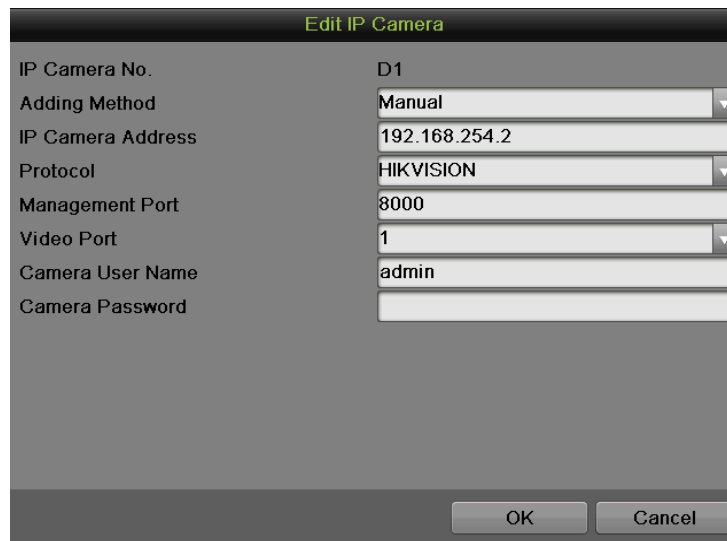

Figure 114 Edit IP Camera
1. Click  in the added camera list to pop up an Edit IP Camera menu, as shown in Figure 114.